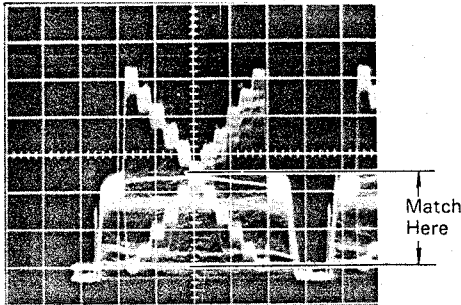

Fig. 6-4-26
- Connect the oscilloscope to TP308(R) and TP309(YL).
- Overlay the R signal and YL signal on the oscilloscope, and adjust RED GAIN PRESET VR318 so that the signals match in the lower half of the gray scale. (Fig. 6-4-26)